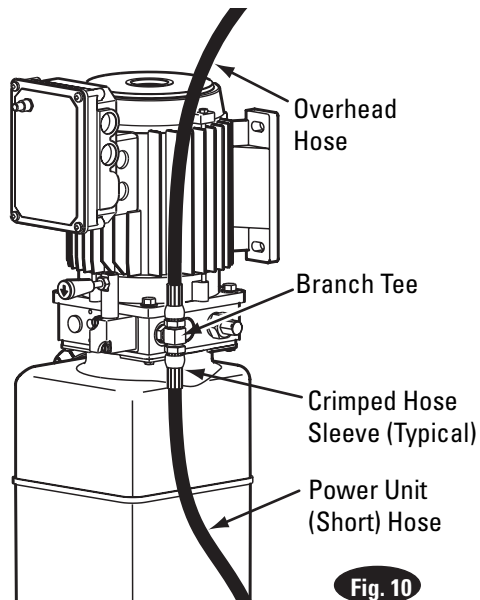

Fig. 10
10. Hoses: Clean adapters and hose. Inspect all threads for damage and hose ends to be sure they are crimped, Fig. 10. Install hose and hose clamps, Fig. 12 & Fig. 16.